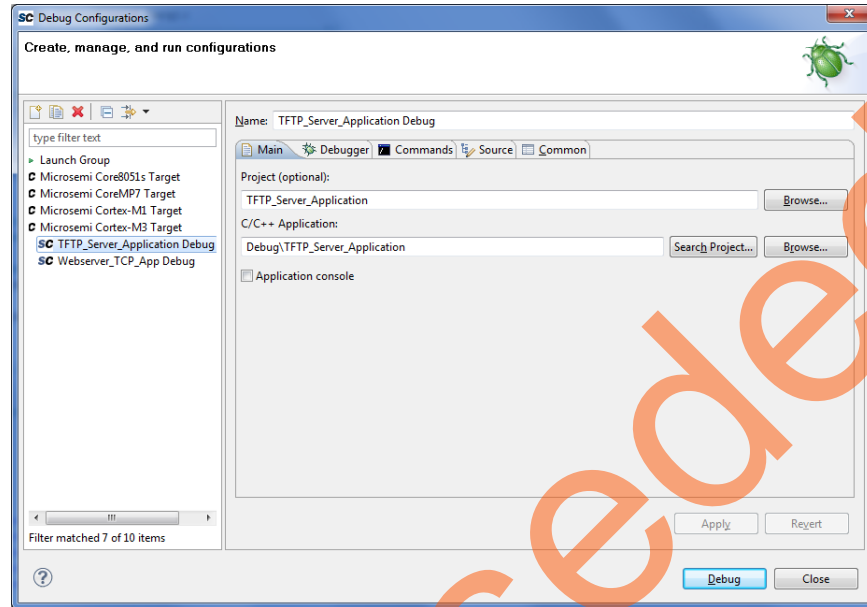

Figure 37 • Debug Configurations for TFTP_Server_app
2. To debug TFTP_Server_app project, select **TFTP_Server_app Debug** as shown in Figure 37.